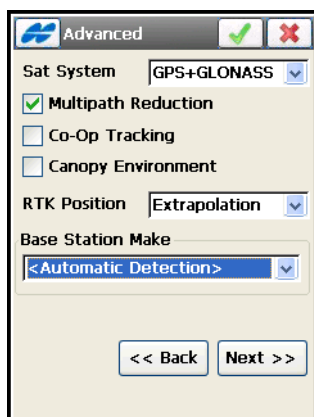

Figure 4-26. Advanced Parameters
15. You may set advanced parameters for the survey on the **Advanced** screen (Figure 4-26 on page 4-22). Tap **Next**.